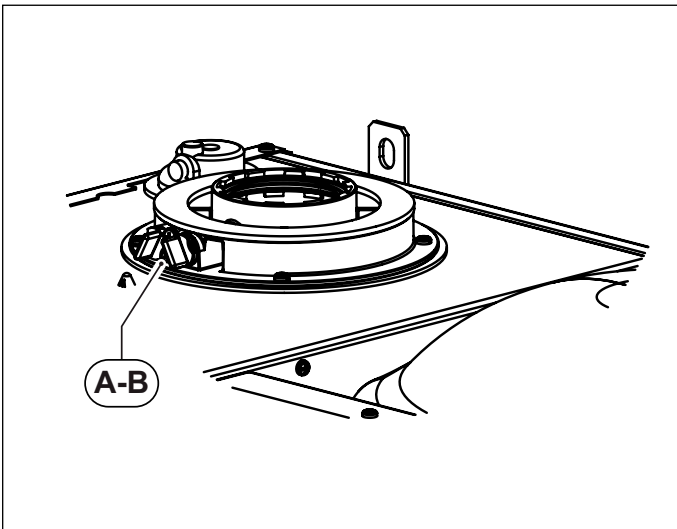
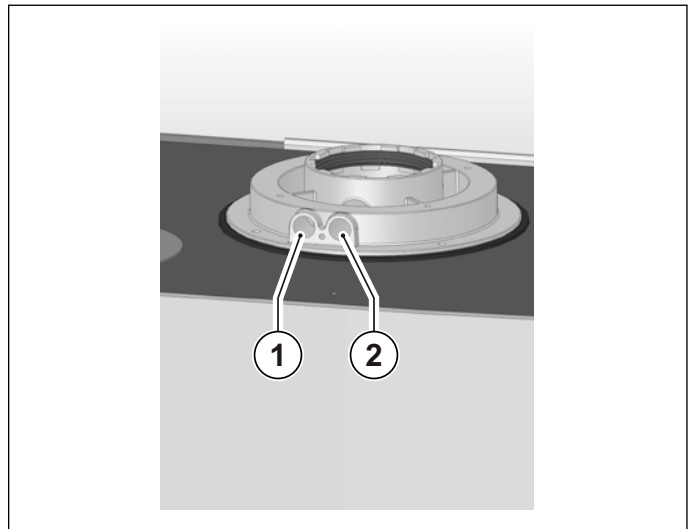

Fig. 19 Plugs position
Fig. 20 Hole position
The boiler is equipped with a tower allowing for air intake/flue gas venting pipe connection (see Fig. 19 Plugs position and Fig. 20 Hole position).
The tower is designed with two pre-arranged openings directly accessing air and flue gas ducts (see Fig. 20 Hole position).
Remove caps **A** and **B** from the pre-arranged openings on the tower, before starting combustion checking procedure (see Fig. 19 Plugs position).
- assess combustion air from opening **1** (see Fig. 20 Hole position).
- assess flue gas temperature and CO2 from opening **2** (see Fig. 20 Hole position).